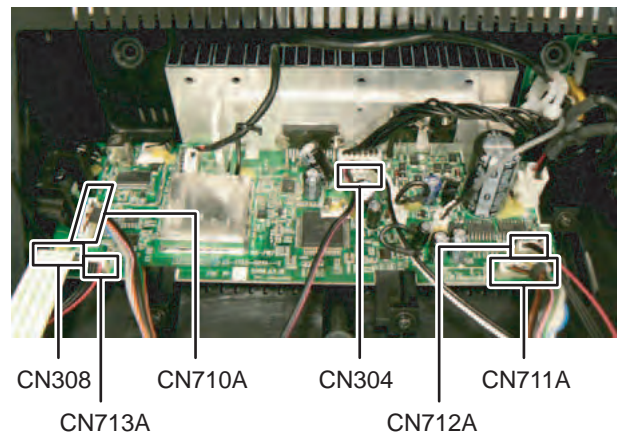

Fig.2
- (2) Disconnect the card wire from LCD board connected to connector **CN308** of the Main board. (See Fig.2)
- (3) Disconnect the connector wire from LED board connected to connector **CN713A** of the Main board. (See Fig.2)
- (4) Disconnect the connector wire from iPod board connected to connector **CN710A** of the Main board. (See Fig.2)
- (5) Disconnect the connector wire from iPod board connected to connector **CN711A** of the Main board. (See Fig.2)
- (6) Disconnect the connector wire from LED board connected to connector **CN712A** of the Main board. (See Fig.2)
- (7) Disconnect the connector wire from Speakers connected to connector **CN304** of the Main board. (See Fig.2)